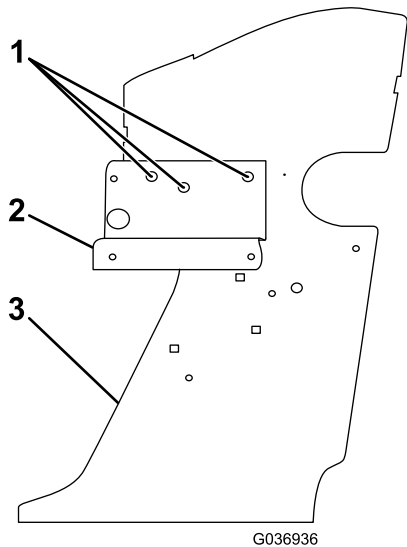

Figure 5
1. Use the hydraulic manifold assembly to determine which pilot holes on the left side of the machine need to be drilled larger (Figure 5).